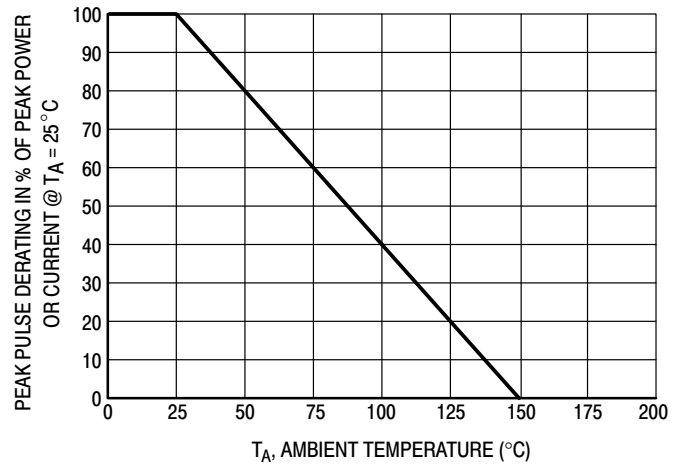
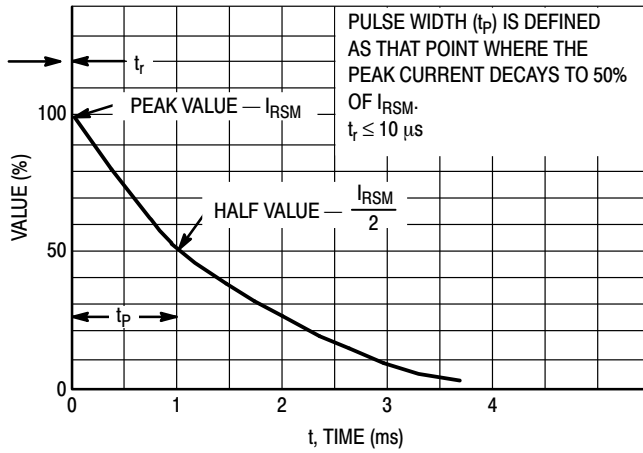
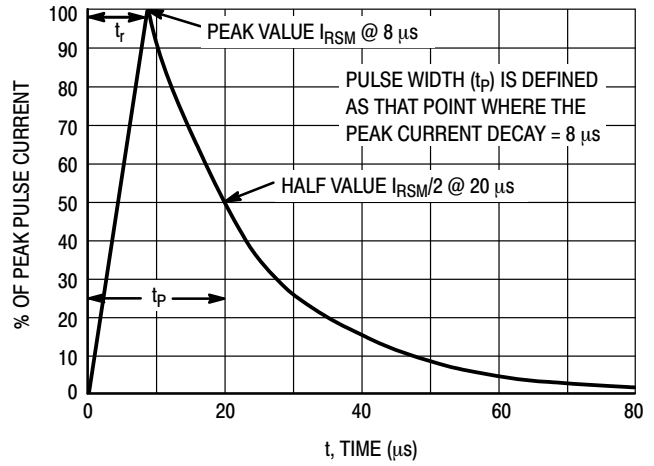

Figure 4. Pulse Derating Curve
Figure 5. $10 \times 1000 \mu\text{s}$ Pulse Waveform
Figure 6. $8 \times 20 \mu\text{s}$ Pulse Waveform
- Peak Power – Min. 24 W @ 1.0 ms (Unidirectional), per Figure 5 Waveform
- Peak Power – Min. 150 W @ 20 μ s (Unidirectional), per Figure 6 Waveform
1. Non-repetitive current pulse per Figure 5 and derate above $T_A = 25^\circ\text{C}$ per Figure 4.
2. Non-repetitive current pulse per Figure 6 and derate above $T_A = 25^\circ\text{C}$ per Figure 4.
6. Surge current waveform per Figure 5 and derate per Figure 4.